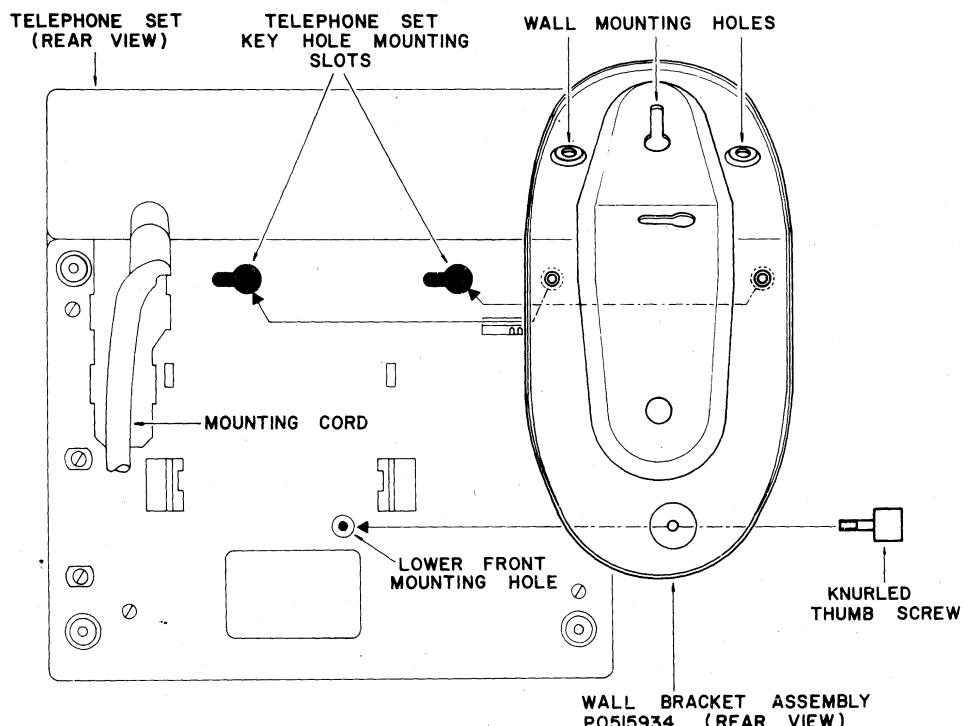

Fig. 2 – Method of Mounting LOGIC 10 Telephone Set to Wall
- 2 Place the telephone set on the wall bracket so that the shoulder rivets enter the corresponding keyhole slots in the base of the set (Fig. 2).